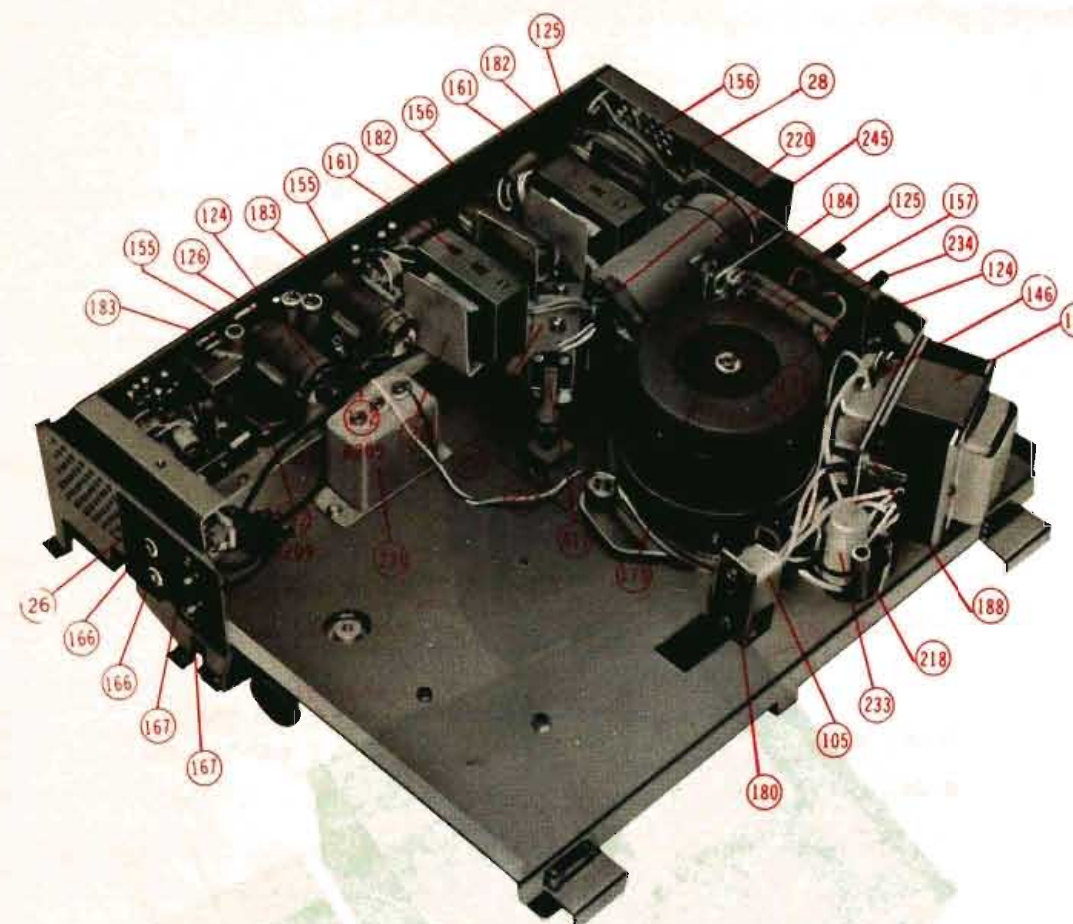

Fig. 1)
4. Turn the Volume Control Knob R₁₀₉ (R₂₀₉) (1192) in Fig. 1) so that the VTVM reads +2 dBs.